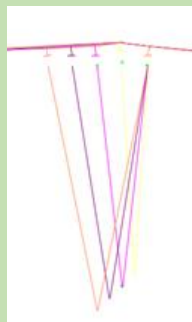

Figure5-55
2. Click on the reference line, or select the two reference points in sequence as shown in Figure 5-55.